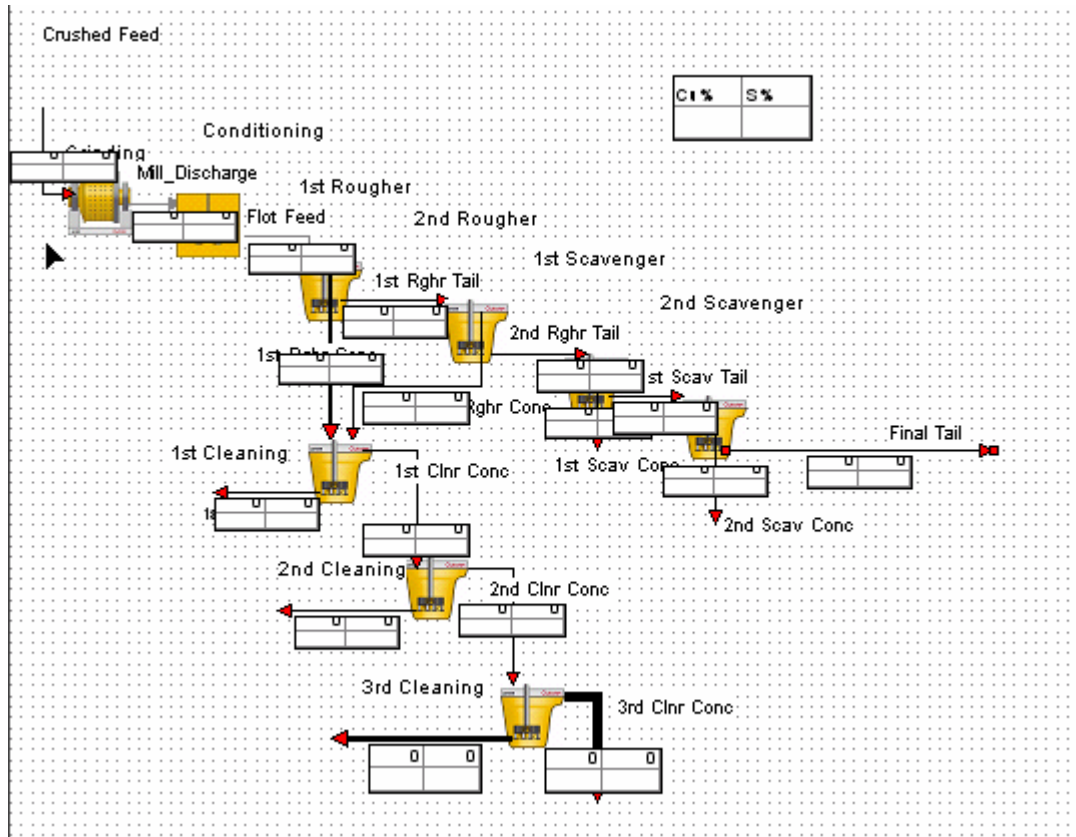

Figure 30. Tables created and Cu % and S % assigned.
- Continue to assign other variables (Figure 30)